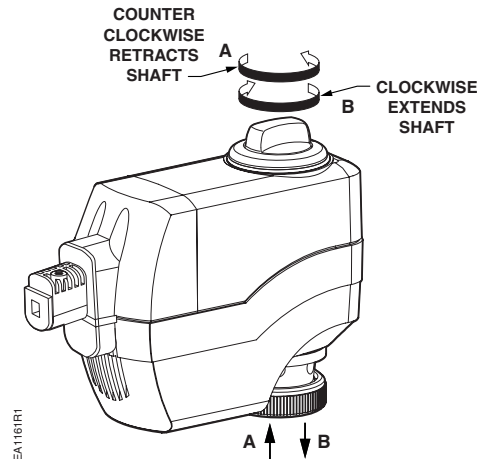
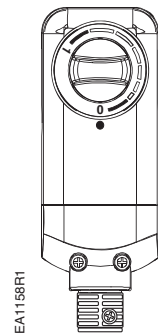

Figure 7. Manual Override.
Figure 8. Position Indicator (Shown in 0 Position).
2. Turn the manual position indicator (See Figure 7 and Figure 8) on the top of the actuator to the 0 position and verify the actuator shaft completely retracts.
For manual positioning, the override knob is in the center of the position indicator. See Figure 7.
Check the wiring and the position indicator (Figure 8).